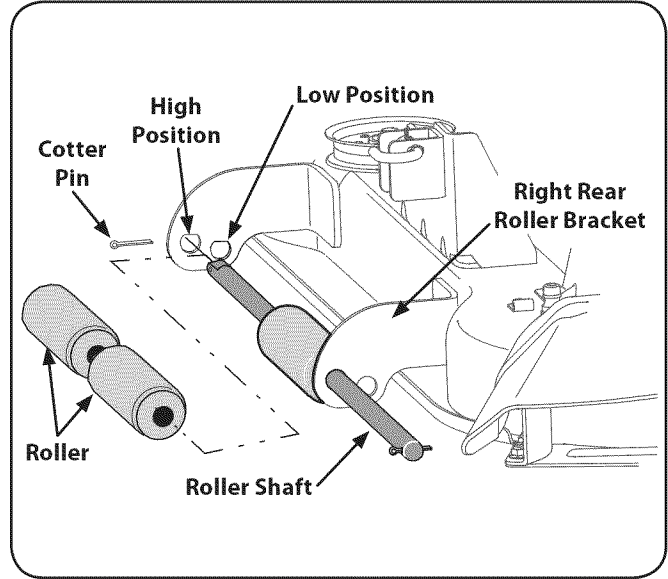

Figure 6-10
- Remove the cotter pin from the left end of the roller shaft. See Fig. 6-10.
- Slide the roller shaft to the right and remove the rollers as the shaft is fully withdrawn from the right rear roller bracket. See Fig. 6-10.